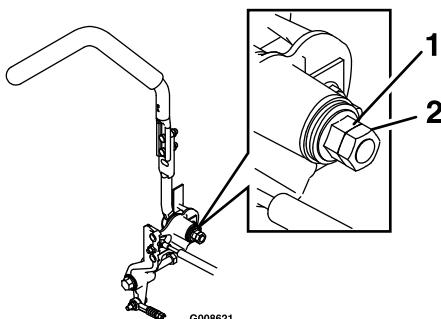

Figure 64
2. Loosen the jam nut (Figure 64).